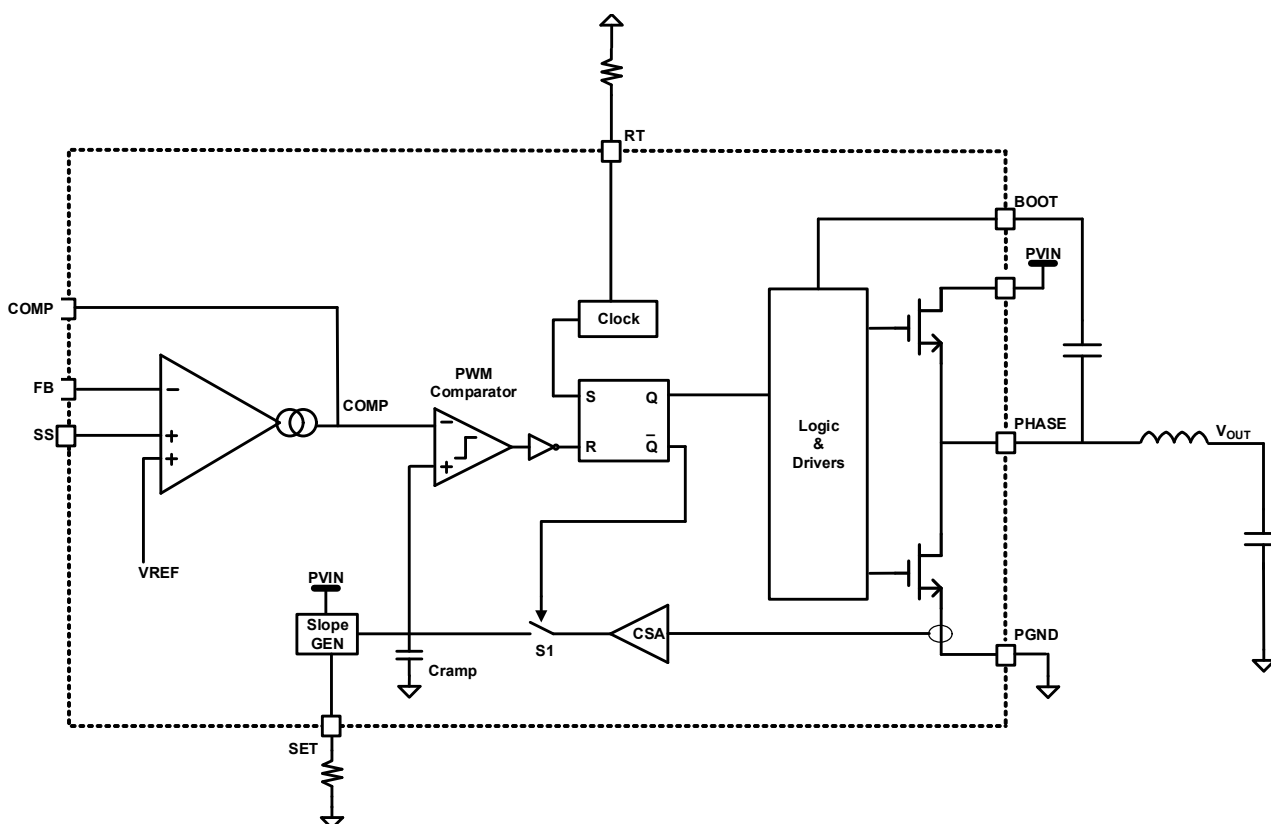

Figure 51. PWM Fixed Frequency Functional Block Diagram
Figure 51 shows the functional block diagram for RAA211650. The output voltage is sensed by a resistor divider from V_{OUT} to the FB pin. An internal transconductance error amplifier (EA) compares FB voltage with the internal 0.8V reference voltage and produces an amplified compensated signal COMP to minimize the error in V_{OUT} . The EA has internal compensation, which provides stable operation across the device operating range. EA uses internal compensation when COMP is connected to AVCC. An external RC network can be between the COMP pin and AGND to use external compensation. The COMP signal is compared with the sum of sensed low-side current and the slope compensation generator. At the rising edge of the PWM clock, the high-side MOSFET turns on ramping up the inductor current. The high-side MOSFET is turned off when the sum of the sampled low-side current and compensation generator reaches the COMP signal level or when the maximum duty cycle is reached. When the high-side MOSFET is turned off, the inductor current starts to ramp down initially freewheeling through the low-side MOSFET body diode. After a small dead time, the low-side MOSFET is turned on and the inductor current shifts from the body diode to the low-side MOSFET channel. During each switching cycle when the high-side MOSFET is turned on, the inductor stores the energy, and it is delivered to load when it is turned off. The resistor R_T sets the switching frequency for the regulator.